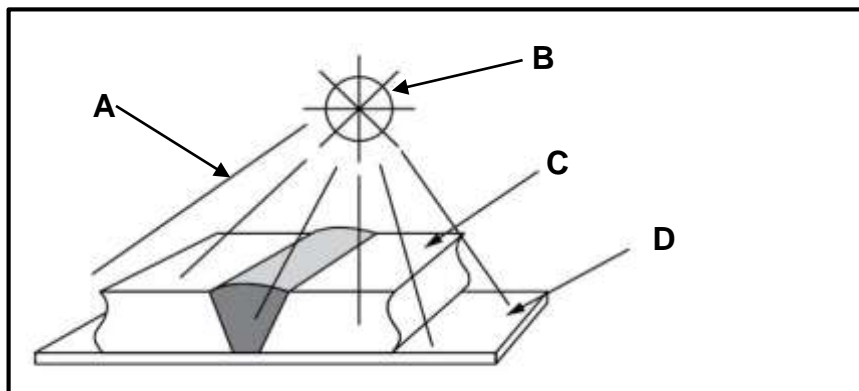

FIGURE 8.7
8.7 FIGURE 8.7 below shows an X-ray test set-up. Label A–D.